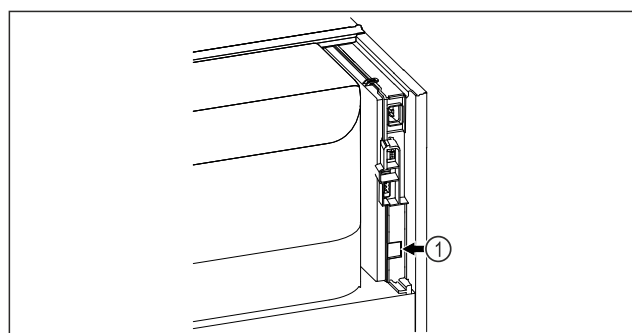

Fig. 147
- ☐ SmartModule Fig. 147 (1) is in use.